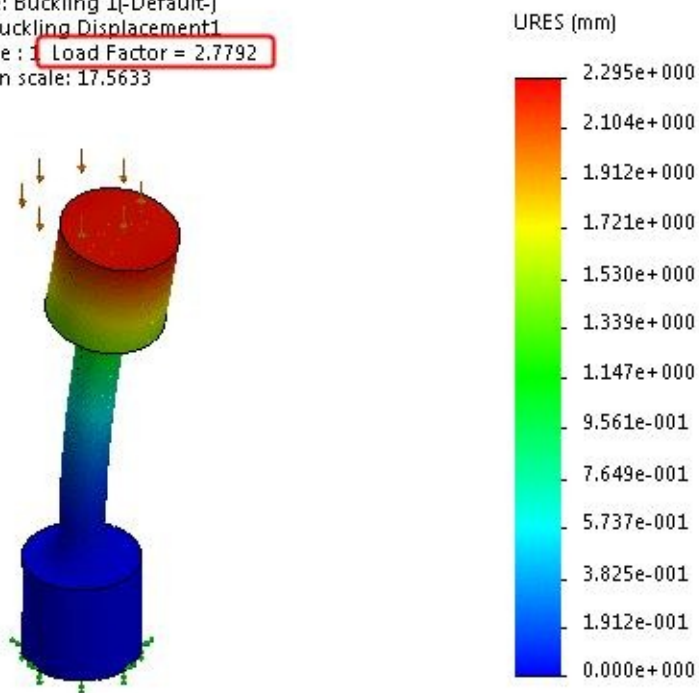

Figure-6. Result
- After the analyzing is complete, the result will be displayed in the modeling area; refer to Figure-6.